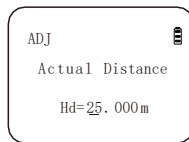
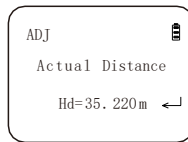

Fig 40
Fig 41
- (3) Input distance data you get from process (1), press SET button to select digit underline place, press Meas. to input 0-9 (figure 40). Input numbers one by one. When “Enter” shows up in screen, (figure 41), press SET button, it will mentioned you to aim the staff.